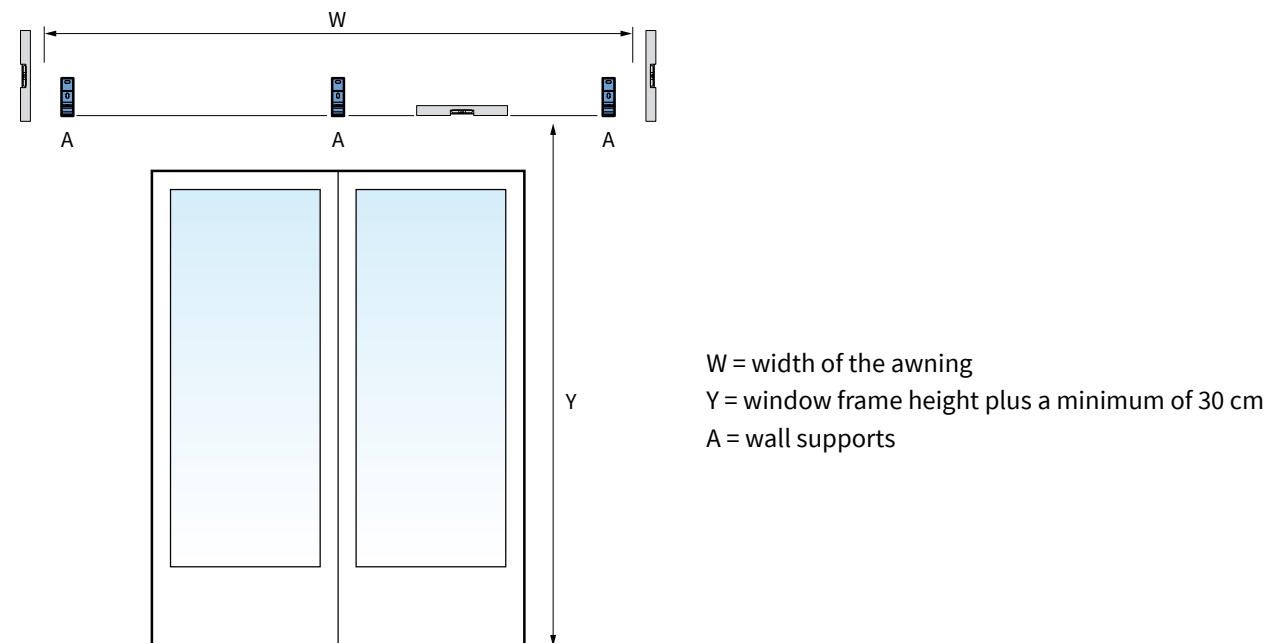

fig. 1.2 Placing the wall supports
Mark the drill holes of the wall supports (A) on the wall. The holes need to be levelled aligned both horizontal and vertical. See figure 1.2.